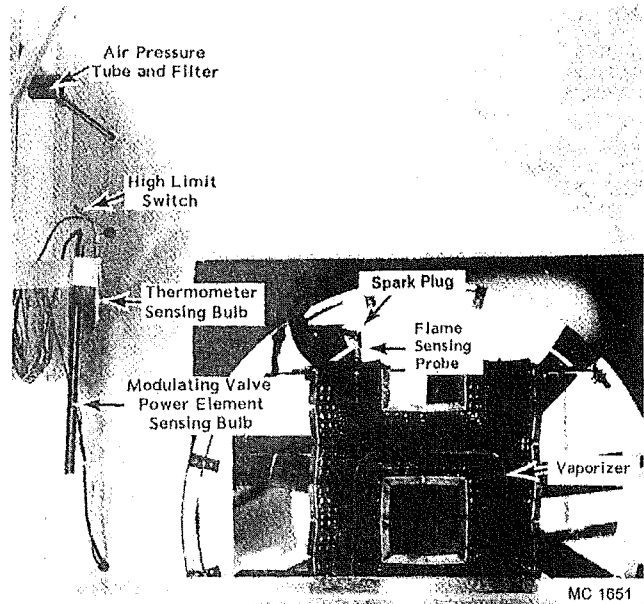
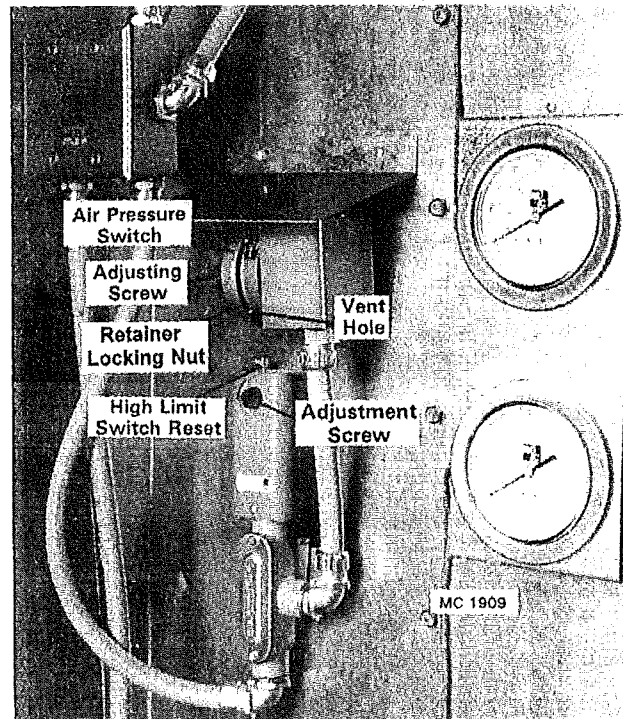

Figure 41 - 6 MBTU Burner - 320 & 520
Figure 42
6. Remove the air pressure switch(es) and clean the tube and filter. See Figure 41 . Be sure the vent hole in the bottom of the air pressure switch is open, see Figure 42 .
5. Turn on the electric power supply to the dryer and turn the Power On Switch to ON. The Power On Light and High Limit Light(s) will be on. If any high limit light is not on, push the reset button on that high limit switch, see Figure 42.
6. Start the bottom burner fan, the air pressure light will be ON. When the fan comes up to speed, open the burner gas manifold hand valve ¼ of the way. Be sure Burner Switch is in the LOW position. Turn the ignition switch ON. After a (15) second delay the gas valve light will be ON and the burner will light.